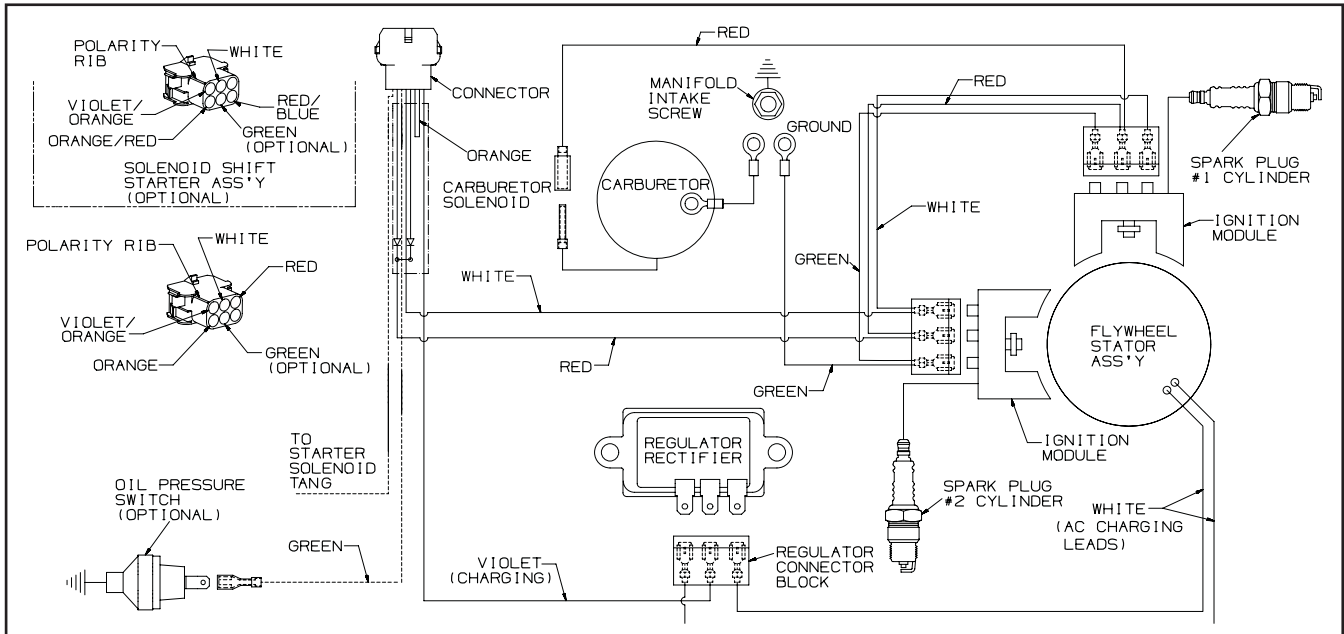

Figure 7-6. Digital Spark Advance Ignition (DSAI) System.
The **Digital Spark Advance Ignition (DSAI) System** (See Figure 7-6). This system uses a digital microprocessor which is located in the ignition modules. The ignition timing varies depending upon the engine speed with this system.
A digital spark advance ignition system (DSAI) is used on some models. The DSAI ignition system is an advanced 12 volt version of the fixed timing ignition system used on other models. Two inductive style ignition modules control the ignition timing based on engine RPM. A typical DSAI application (Figure 7-6) consists of the following components:
- Two inductive 12 volt ignition modules, which mount on the engine crankcase (Figure 7-6).